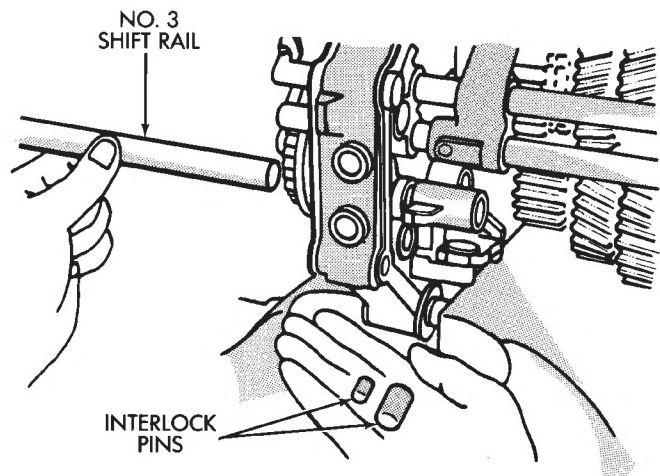

Fig. 14 Removing No. 3 Shift Rail And Interlock Pin
(8) Remove shift rail No.3. **Catch interlock pins as rail is removed (Fig. 14).**